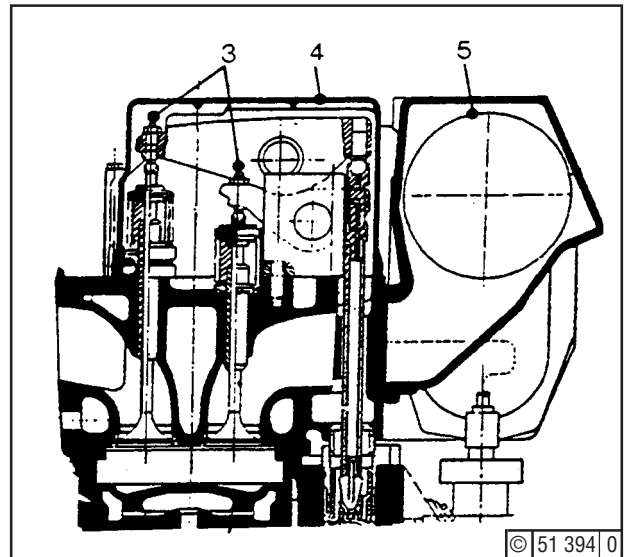
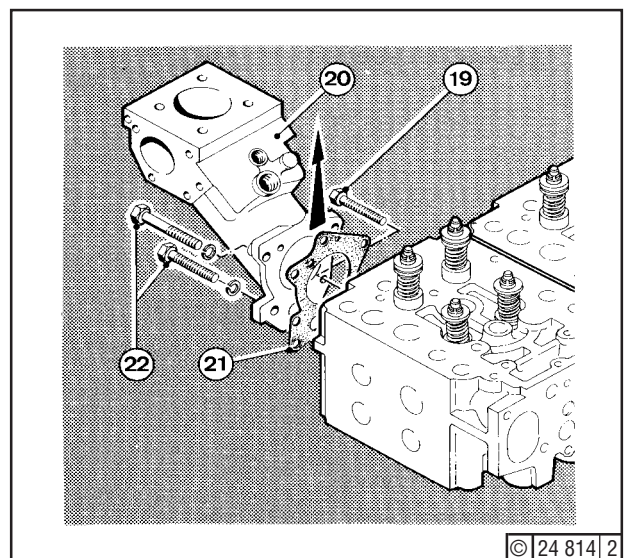
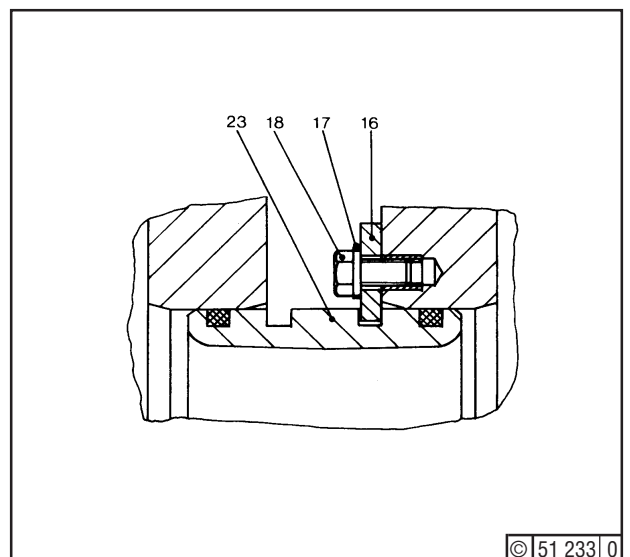

Fig. 1
Fig. 2
Bild 3
Observe safety precautions (Job Card 02.00.01). Drain cooling water. Remove rocker chamber cover (4) - fig 1 - and turn engine so that inlet and exhaust valves are closed. Release valve clearance adjusting screws (3) on rocker arms. Disconnect pilot air pipe at the joint above the starting pipe. Release two hex. bolts securing indicator cock and turn cock. If necessary, remove. Release locks (16) - fig 3 - on sliding piece of the charge air piping (5) and move sliding pieces sideways. Disconnect injection piping and main starting air pipe from cylinder head. Unscrew 4 bolts (22) - fig 2 - on exhaust elbow (20).